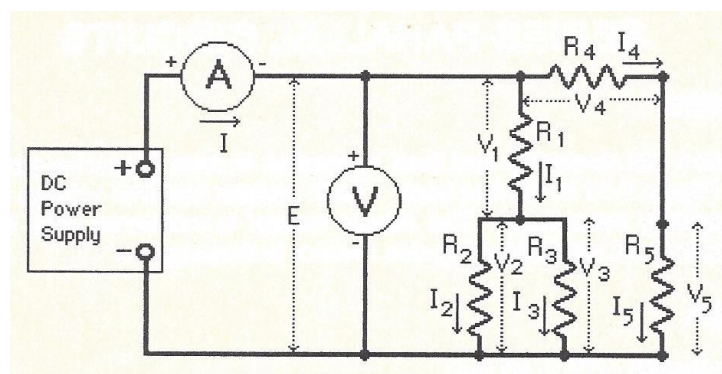

Figure 2
4. Connect a power supply, voltmeter, and ammeter to the circuit, as in Figure 2